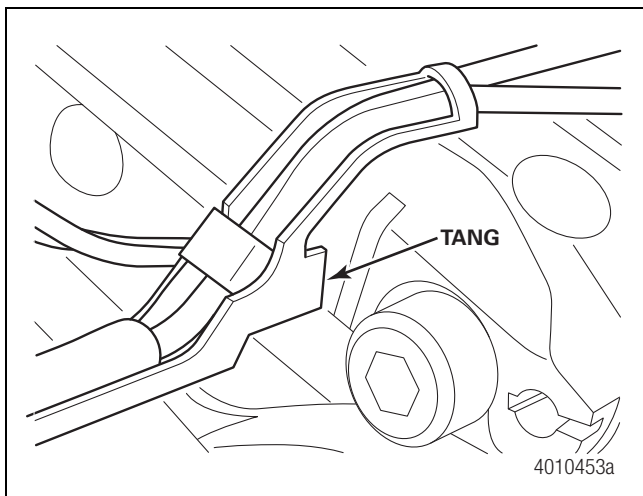

Figure 4.24
- Position the PWWI assembly into the brake and engage the tang into the housing. Figure 4.24.